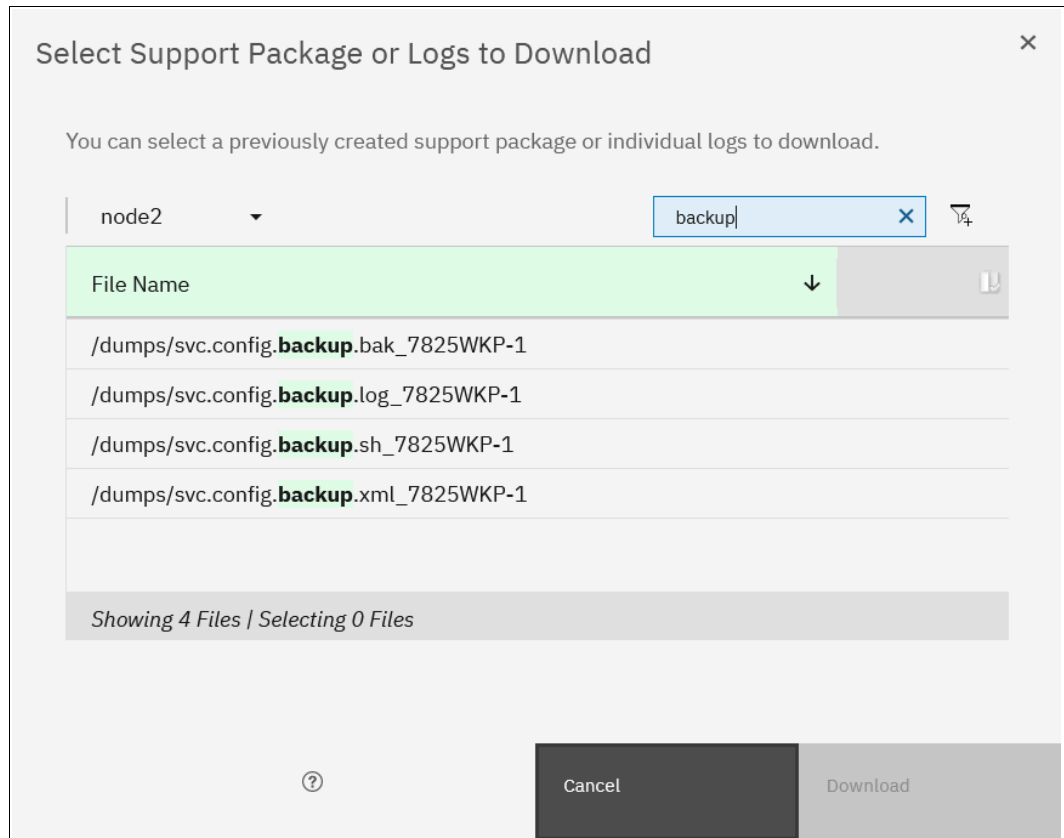

Figure 13-14 Filtering specific files for download
4. Filter the view by clicking in the **Filter** box, entering backup, and pressing Enter, as shown in Figure 13-14.